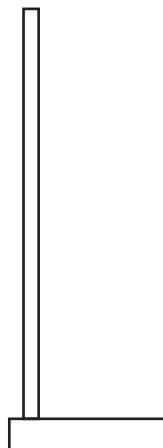

Fig. 1.1
- 1 At least one of the stands should be metallic and shaped as shown in Fig. 1.1 with a flat rectangular base and an approximate height of 75 cm. The base of the stand should be labelled B.